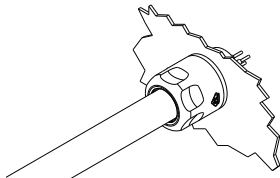

Figure 5
5. Tighten cap nut (Figure 5).